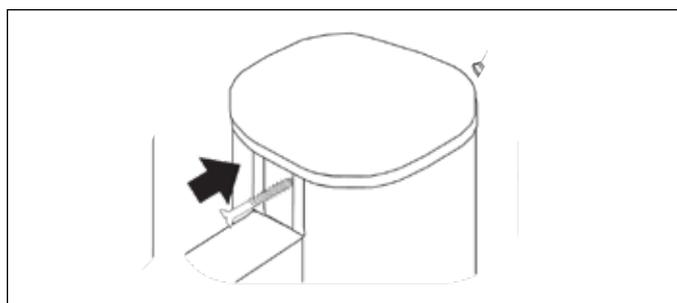
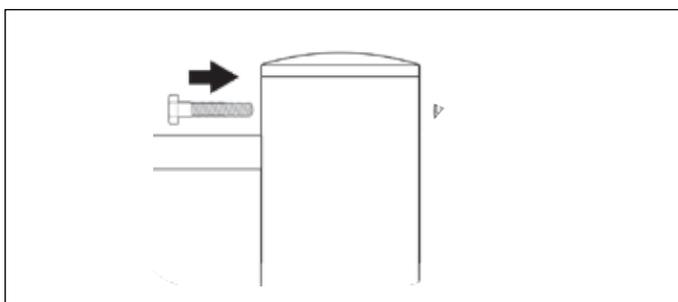

Figure 13
Figure 14
- B. Push the post cap in place and push the bolt through using the outer hexagon nut to secure. See **Figure 13** & **Figure 14**.